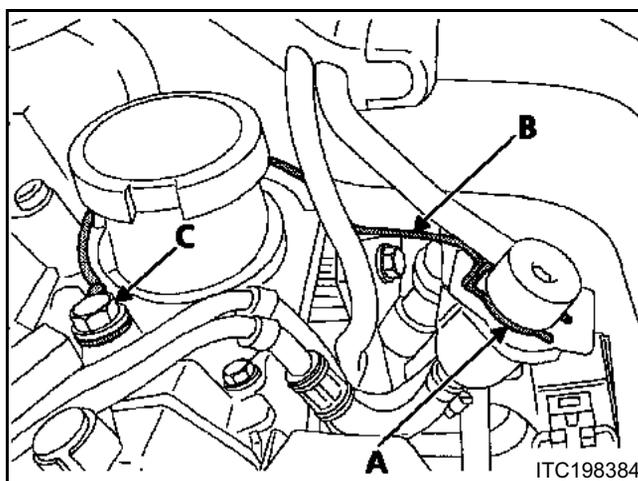

Fig. 1
- Check the presence of the wiring (B) (Fig. 1).
- Remove the retaining clip (A) (Fig. 1) from the fuel pressure regulator using a small screwdriver.
- Run the wiring (B) (Fig. 1) between the wire for plug n° 4 and the injector gallery, then around the oil filler well.
- Remove the radio anti-interference condenser mounting bolt (C) (Fig. 1).
- Insert the terminal for the wiring (B) (Fig. 1) between the condenser and the cylinder head cover.
- Refit bolt (C) (Fig. 1).